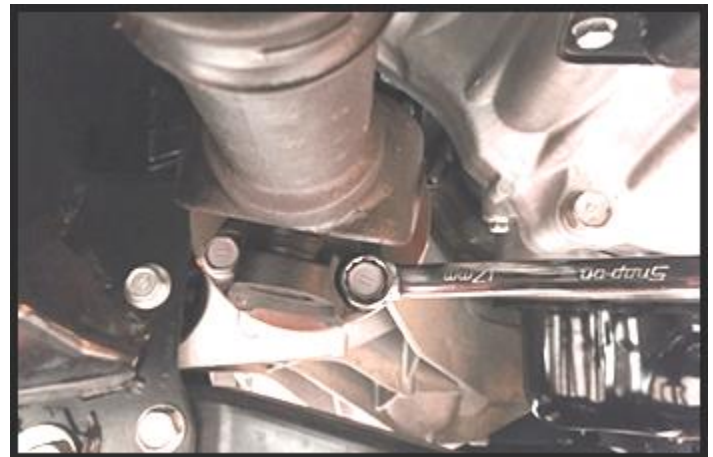

Figure 2
3. Place a 17MM box end wrench on one of the bolts, while holding the Prop Shaft in place and apply LIGHT to MODERATE force, repeat on the other bolts. (Figure 2):